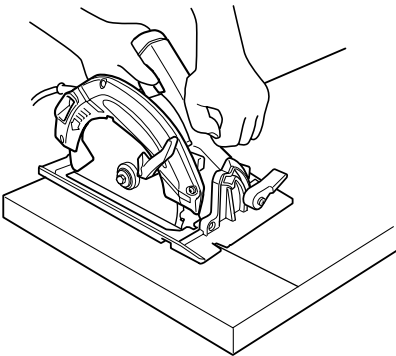
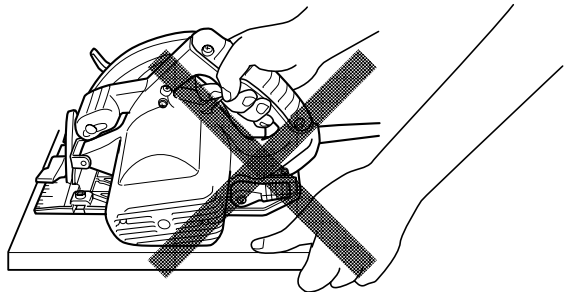

Fig. 5
Fig. 6
- 23. **Place the wider portion of the saw base on that part of the work piece which is solidly supported, not on the section that will fall off when the cut is made.** As examples, Fig. 5 illustrates the RIGHT way to cut off the end of board, and Fig. 6 the WRONG way. If the work piece is short or small, clamp it down. **DON'T TRY TO HOLD SHORT PLACES BY HAND!**